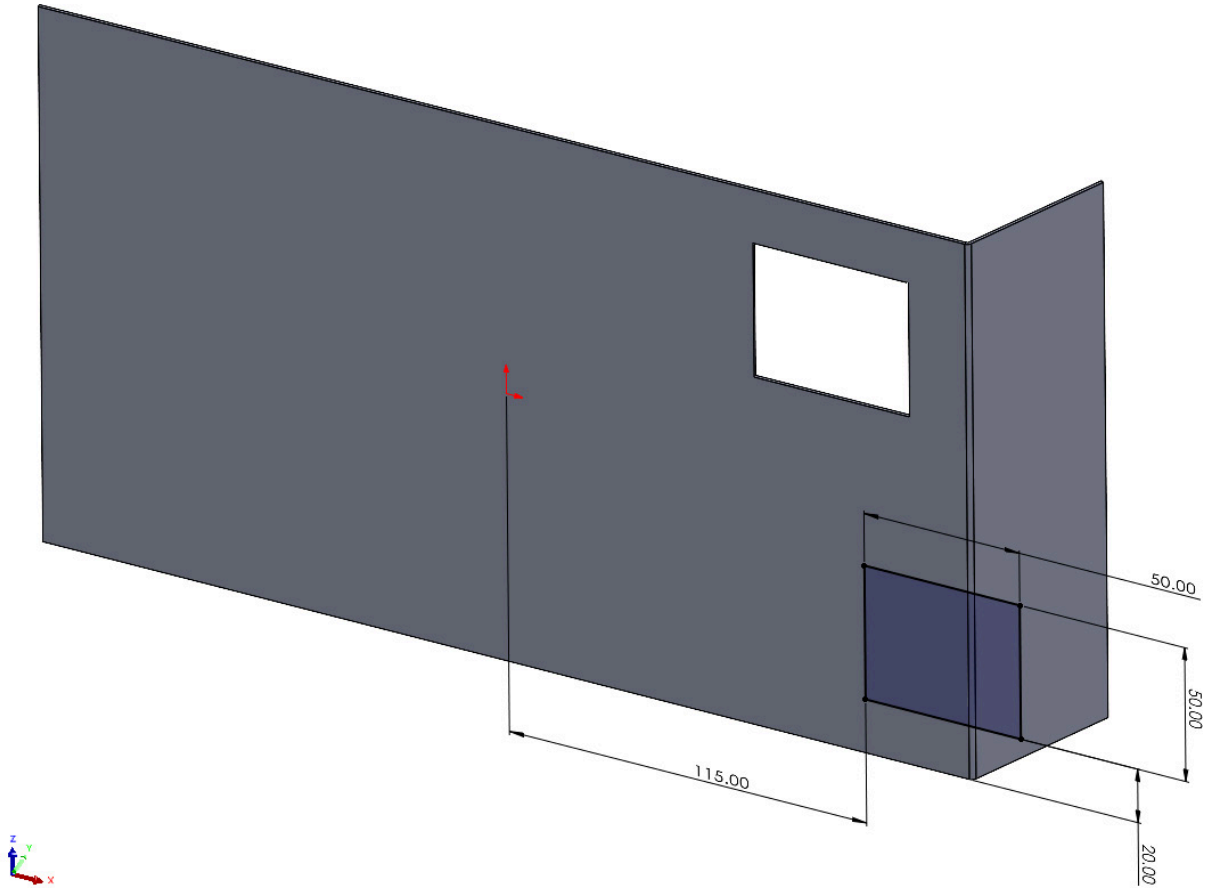

Figure 3.3: Sketching a new cut profile on the underside of the Base Flange
3. Now, start a new sketch on the *underside* of the **Base Flange**. This should be **50x50mm** in size and straddle the new **Edge Flange** bend, as shown in *Figure 3.3*: